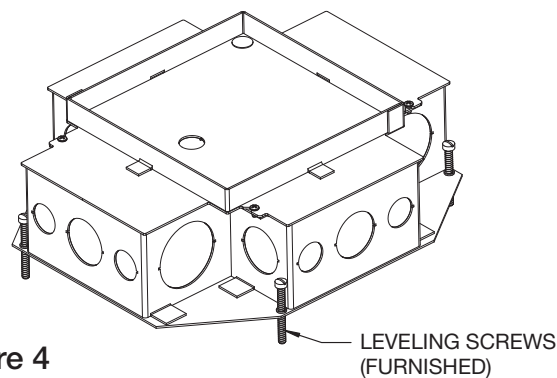

Figure 4
5. Install (4) leveling screws. See figure 4.
6. Replace top and tighten (4) top screws. See figure 4.
7. Adjust leveling screws so that top edge of box is 1/16" below screed line. Attach conduit and secure box to form. See figure 4. Box is now ready for concrete pour.